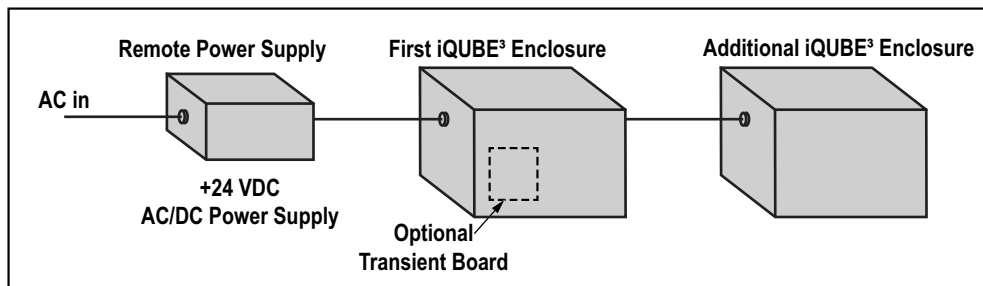

Figure 1-4. iQUBE³ with External AC/DC Power Supply
- External 115/230 VAC power supply in an fiberglass reinforced plastic (FRP) enclosure (Figure 1-4)